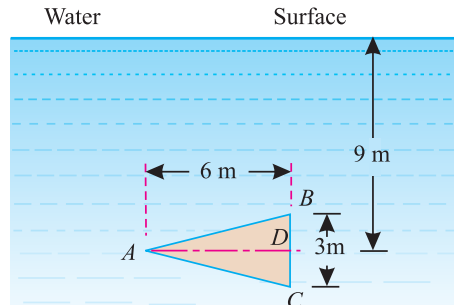

Fig. 35.11.
**Example 35.9.** An isosceles triangle of base 3 metres, and altitude 6 metres, is immersed vertically in water, with its axis of symmetry horizontal as shown in Fig. 35.11.